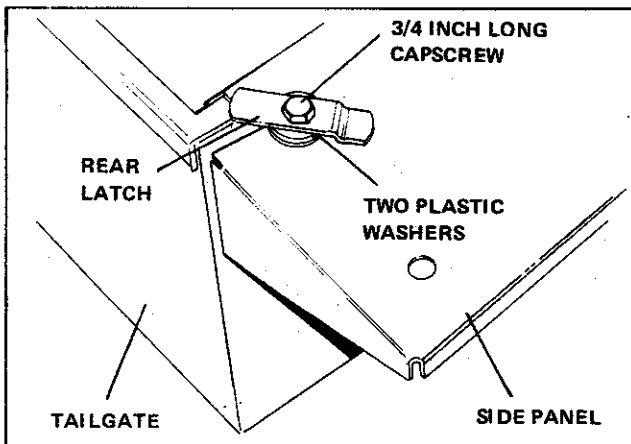

Figure 21. Installing Bar Latch
4. Attach the rear latches to the side panels as shown in figure 21, using a 5/16 x 3/4 inch capscrew, flat washer, two plastic washers, and locknut. Place the latch on the capscrew, then two plastic washers. Insert the capscrew through the side panel, and place a flat washer and locknut on the capscrew, tightening the locknut.